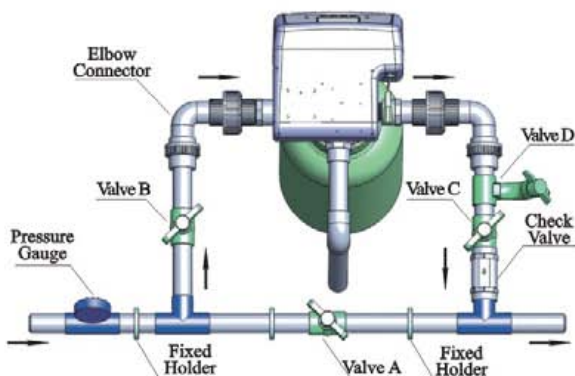

Figure1-2
a. As figure 1-2 shows, install a pressure gauge in water inlet.